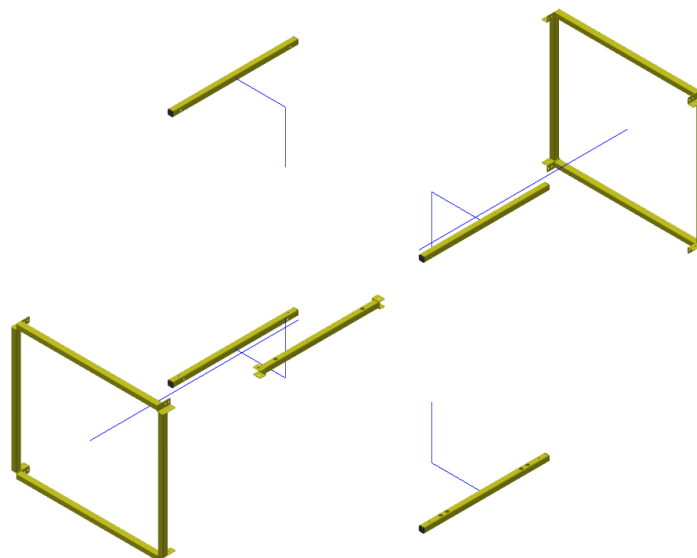

Figure 11: Machine Guard Frame Exploded View
- Assemble Machine Guard Corner Tube Assemblies (p/n _ _-223) and secure with provided 1/4-20 hardware similar to the previous step. An exploded view of the Overhead Traction Machine Guard is shown below for reference (Figure 11).